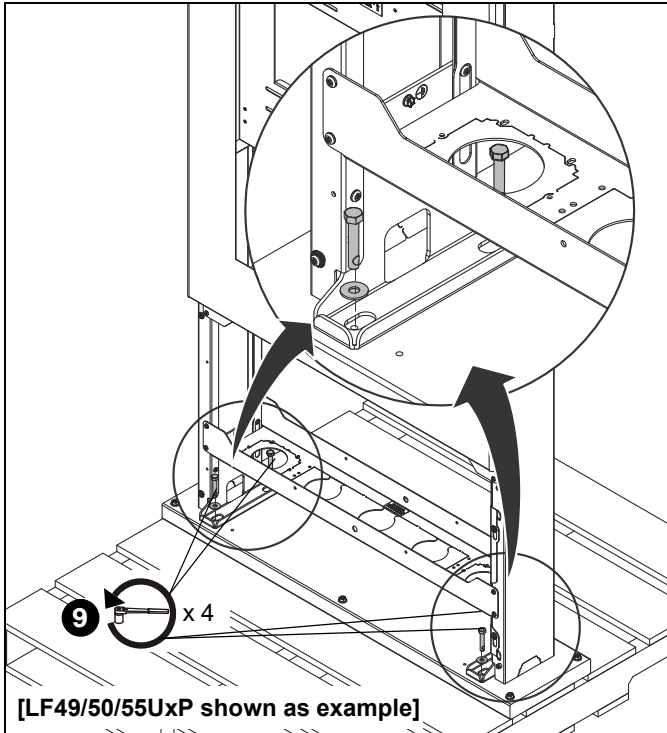

Figure 3
**WARNING:** TIPPING HAZARD! **Close and lock door(s)** before removing the hex head bolts from the pallet. (See Figure 3) **Keep door(s) closed and locked** until the kiosk is fully secured to the floor. Kiosk may tip if door(s) are open when kiosk is not securely fastened to pallet or to floor.
- Remove and discard the four hex head bolts and washers connecting the kiosk to the pallet, and lift kiosk off wood pallet. (See Figure 3)